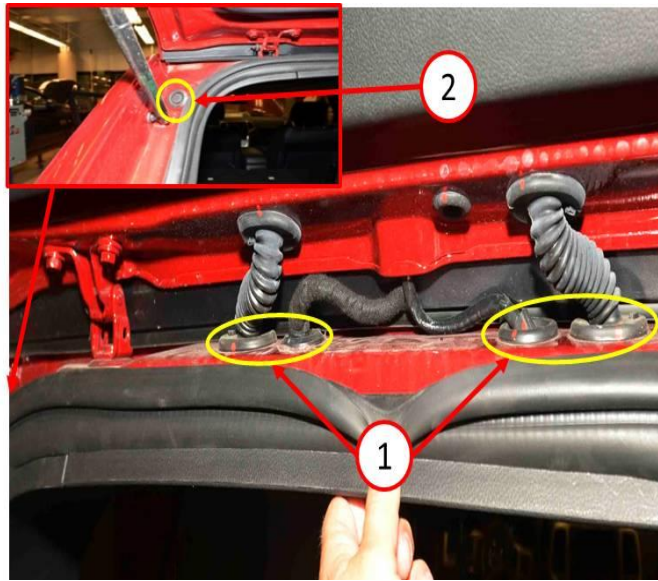

Fig. 2 Inspect Rear Liftgate Body Grommets
2. Open rear liftgate and verify liftgate wiring grommets to body are fully seated to body sheet metal by pushing down around perimeter of grommet (Fig. 2).